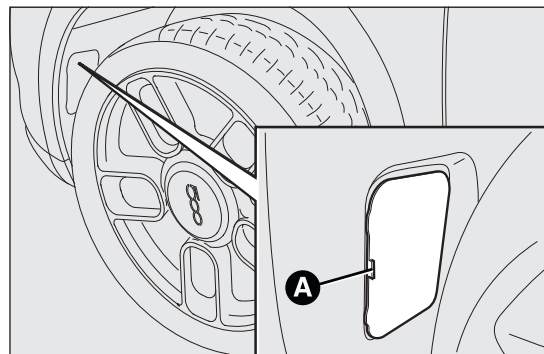

fig. 115
- ☐ adjust the tab A fig. 115 and remove the pressure-fit flap;